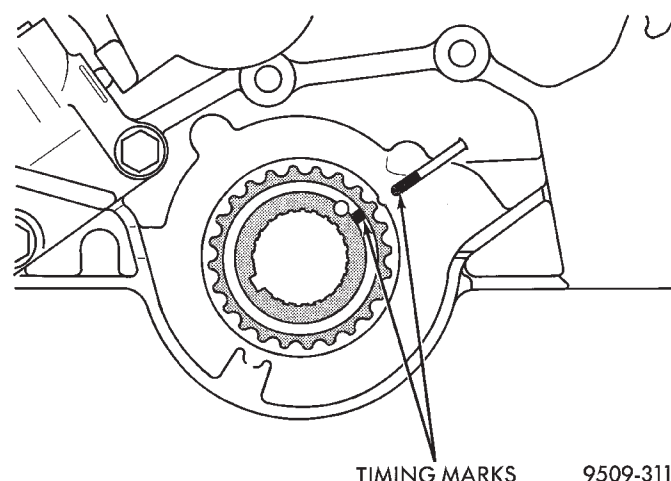

Fig. 57 Adjusting Crankshaft Sprocket for Timing Belt
- (3) Install timing belt on rear camshaft sprocket first and install a binder clip on the belt and sprocket so the belt will not slip out of position. Keeping the belt taught, install under the water pump pulley and then around the front camshaft sprocket. Install an additional binder clip on the front sprocket and belt.
- (4) Rotate the crankshaft to TDC (Fig. 57). Continue routing the belt by the idler pulley and around the crankshaft sprocket to the tensioner pulley.